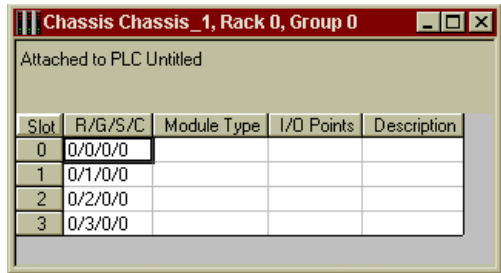

FIG. 4-12 CHASSIS DISPLAY
Step 6. Click on Display Chassis. The Chassis Chassis_1 display appears. (See Fig. 4-12)